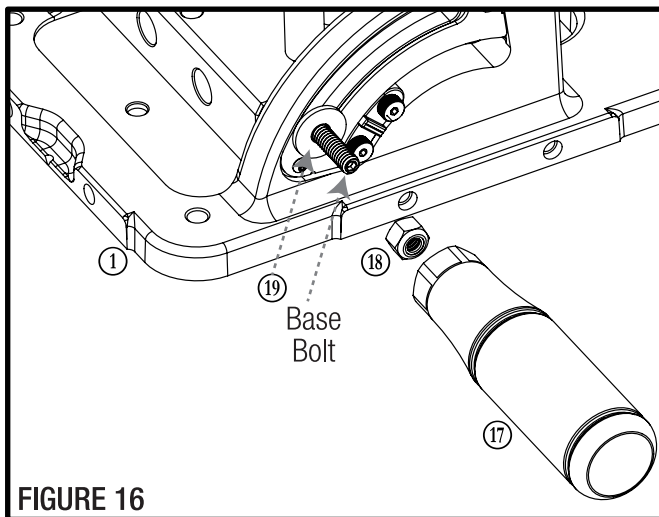

FIGURE 16
1. To install, begin by removing a Handle from your preferred side. **FIGURE 16.**
2. Remove the Drag Nut (18) using a 7/16" wrench (*not included*).
3. The Drag Washer (19) remains on the Base Bolt.